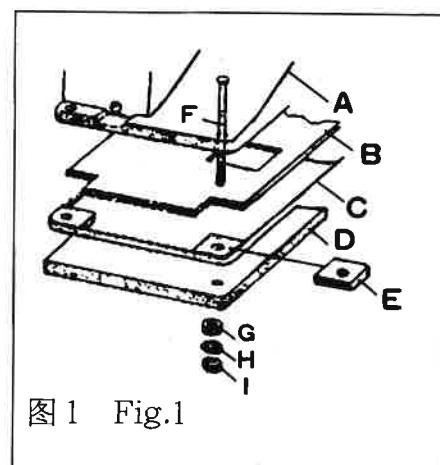

图 1 Fig.1
(2) Machine frame assembly
① First connect rear stand side support and treadle shaft beam with side frame (left and right), and then link up treadle with treadle shaft beam by treadle shaft and treadle shaft base.
② Connect motor and table.
③ Put the table onto machine frame, partition the table at the centre with four table washers, and fix the table and machine frame with washers and wood screws.
④ Connect upper and lower pull rod with motor and treadle lever, put on pull rod joint. After regulating position of treadle(left and right, high and low),fix the treadle and pull rod joint to locate the treadle
(3) Head assembly
① Put base shock absorber "D", base plate "C", base shock absorber "B", shock absorber "E", head "A" in sequence onto the table, align the four holes, then put four small hexagonal nuts "F" from top to bottom into the holes, then put on anti-loosening pads "G", flat pads "H", then tighten the four nuts clockwise, fix the head on the table (Figure 1).
② Connect knee control rod "K" and sleeve "L" with the front end of the long axis, the knee control rod horizontal bar is 1 cm away from the front end of the table "J".
③ Put on triangular belt "N", move the motor position left and right, align the motor pulley with the head hand wheel, then fix the motor on the table, regulate the motor height position, make the belt loose and tight suitable.
④将电机开关固定在台板右前下方操作方便的位置上,接通电源.
(3) Fitting machine head
① Put pads "A", "B", "C", "D", "E" onto the table in order as shown in Fig.1. Insert four hexagon head bolts with small head "F" into the holes. After putting on washers "G" and "H", put on hexagon nuts "I", tighten the four nuts diagonally, and fix the machine head on the table (Fig.1)